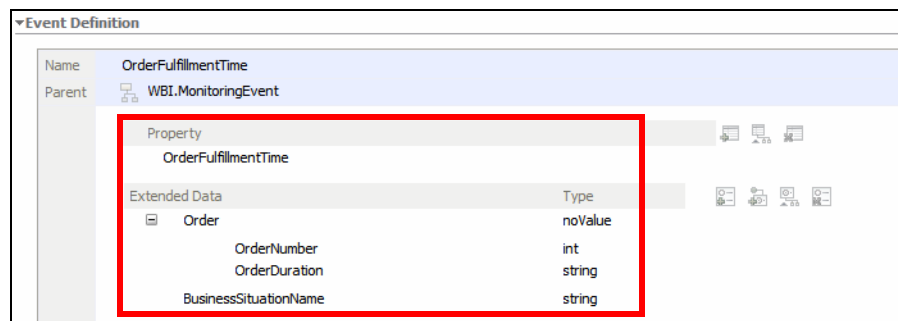

Figure 12-53 Event definition
- ▶ Now select the `Order` item created and click *Add Extended Data As Nested Child* , and specify the name as `OrderNumber` and select `int` for the type. Add another item named `OrderDuration` with type `string` (Figure 12-53).